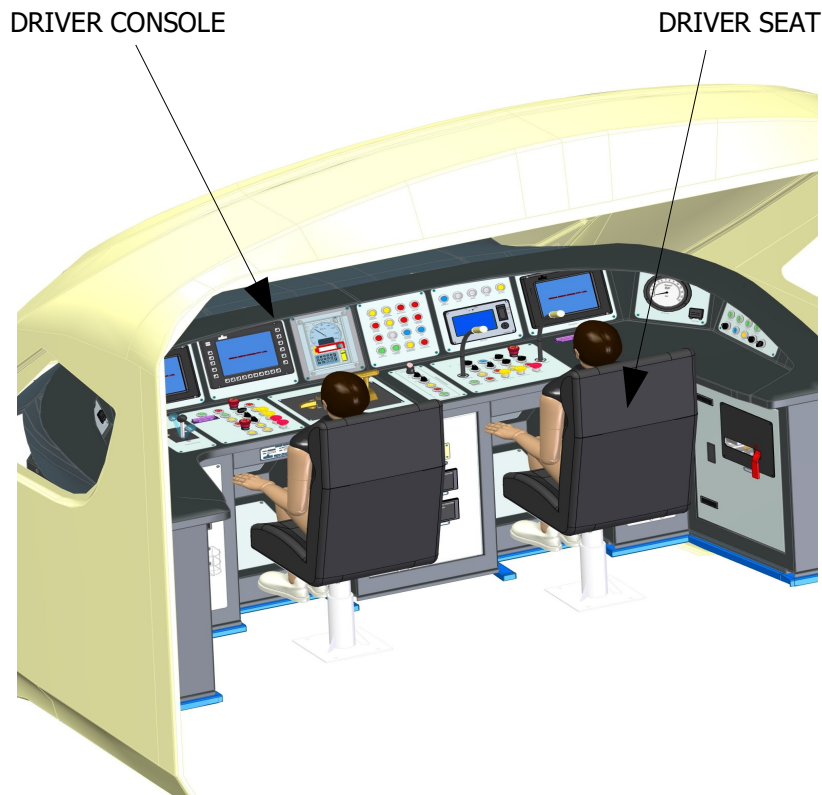

Figure 1: Overview of driver cab
- Figure 1 : Overview of Driver Cab
cone of the Driving trailer coach of the train 18 (Figure 1). Within the document it is described in detail which and how the maintenance activities shall be carried out.
Figure 1 shows driver cab where the driver console and driver seat are located.